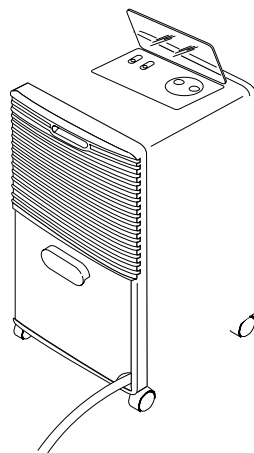

Fig. 3
- 5) Replace the tank into the appliance (Fig.3).